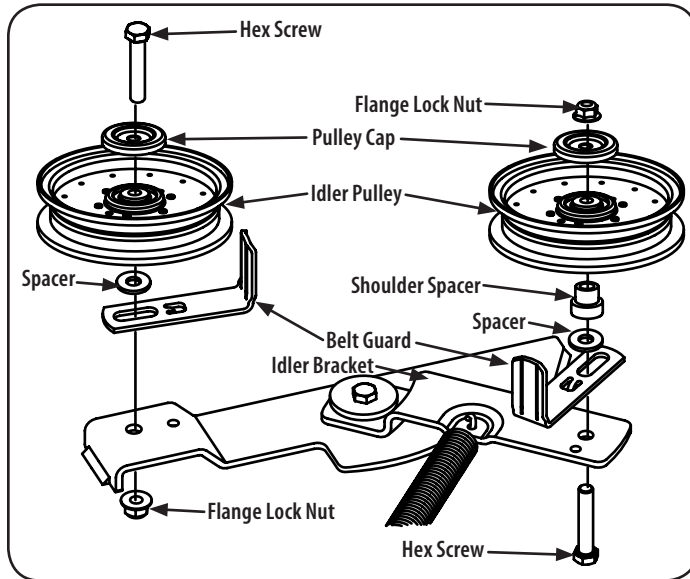

Figure 38
- a. Remove the movable idler pulleys and belt guard on the left pulley by removing the hex screws, pulley cap and flange lock nuts that secure them the idler arm and deck. See Figure 38. Do not lose any of the hardware when removing the hex screw, belt guard, pulley cap, spacer, shoulder spacer and flange lock nut.
- d. Place the belt around the idler pulleys removed in step 3 with the "V" side facing in. Once in place, reinstall all the hardware and tighten the flange lock nut to secure the assembly. See Figure 38.